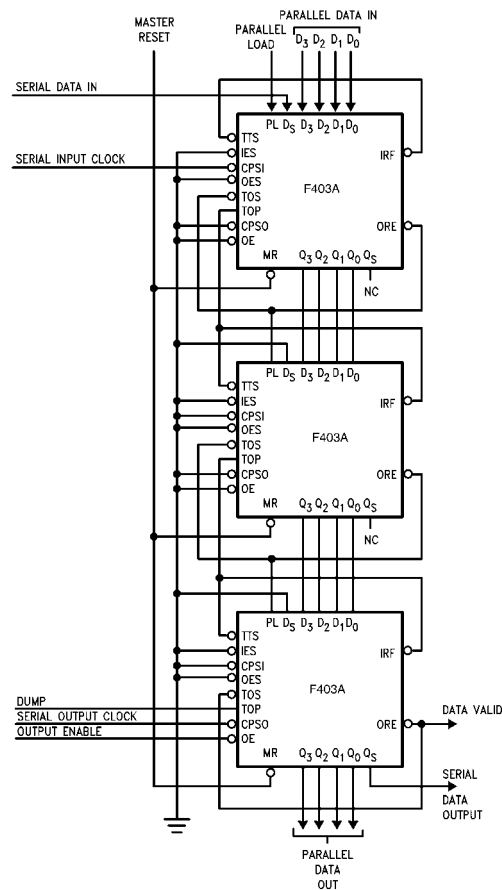

FIGURE 4. A Vertical Expansion Scheme
**Vertical Expansion**— The 74F403A may be vertically expanded to store more words without external parts. The interconnection is necessary to form a 46-word by 4-bit FIFO are shown in Figure 4. Using the same technique, and FIFO of  $(15n + 1)$ -words by 4-bits can be constructed, where  $n$  is the number of devices. Note that expansion does not sacrifice any of the 74F403A's flexibility for serial/parallel input and output.